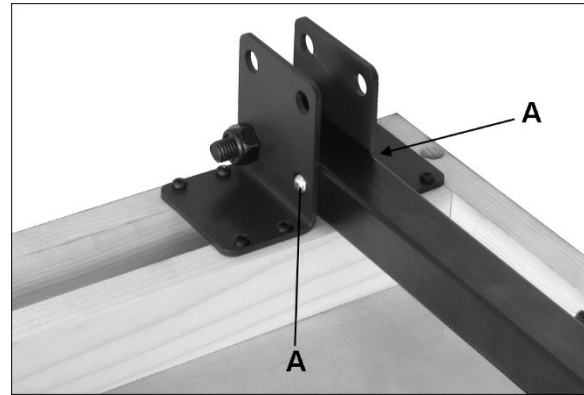

Figure 6-6
3. Press both ball detents (A, Figure 6-6) and swing leg until it “clicks” into position.